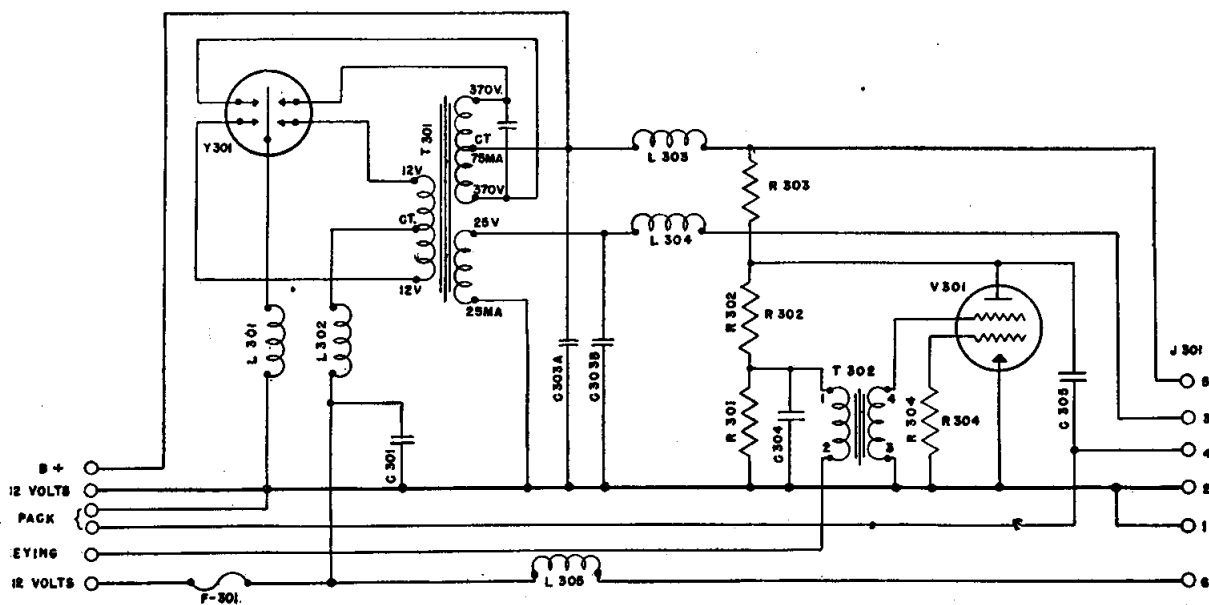

FIGURE 1.—Revised schematic to eliminate misfiring of discharge unit assembly in Model NK-2 equipment.
*Procedure.*—Refer to Fig. 1:
*Changes in instruction books.*—Alter figure 7 in "Installation, Operation, and Maintenance Instructions for NK-2," Contracts NXs-2341 and NXss-21997, to conform to Figure 1.